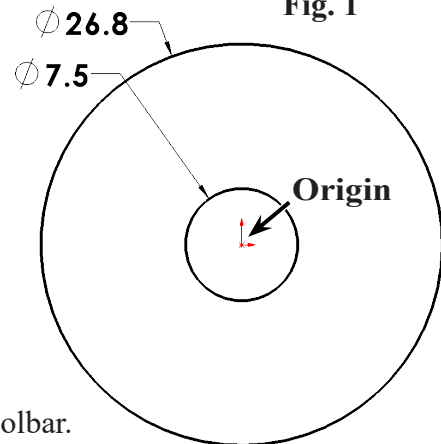

Fig. 2
Step 3. Click **Circle**  (S) on the Sketch toolbar.
Step 4. Sketch two circles at **Origin** , **Fig. 2**.
Step 5. Click **Smart Dimension**  (S) on the Sketch toolbar.
Step 6. Dimension **diameters 26.8 and 7.5**, **Fig. 2**.